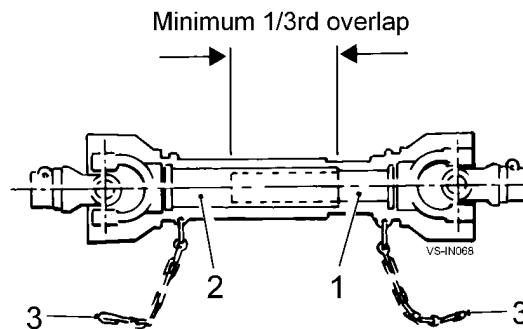

Fig 2
1. Separate the male shaft (item 1, fig. 2) and female shaft (item 2, fig. 2) and fit them to the tractor and harvester respectively.
7. Finally, attach the safety chains (item 3, fig. 2) to secure anchoring points on the tractor and machine ensuring that the chains will not over-tighten when the machine is turning.